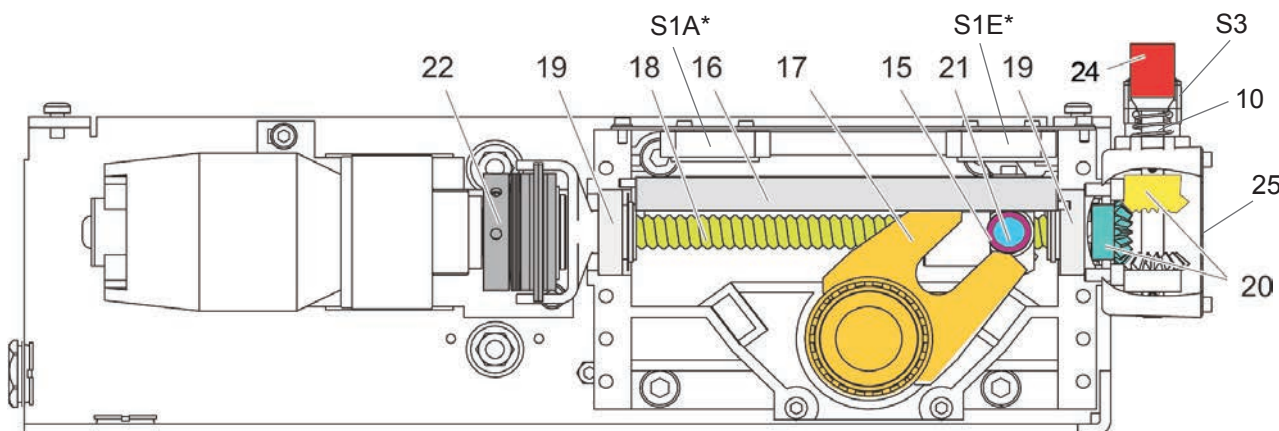

Fig. 8
AFTER 10.000 switching cycles or 10 years	<ul style="list-style-type: none"> <li>• Activities as described under annual.</li> <li>• Lubricate the following components of the motor drive with the lubricant Isoflex NBU1 (see 7.1) so that the interacting components are sufficiently lubricated:                             <ul style="list-style-type: none"> <li>• Guide rollers (15) on both sides, driver pin (21) inclusive guide rails (16) on both sides and connecting fork (17)</li> <li>• Ball and screw spindle drive (18) and both rolling-contact bearing (19)</li> <li>• Bevel gearing (20) and shifting sleeve (10) at the emergency manual drive (it is necessary to remove the covering (25))</li> <li>• All moveable parts</li> <li>• Function control of the pilot switches (S1A and S1E, see Fig. 1), protective motor switch (P), emergency switch (S3, see Fig. 8), heating and thermostat (Q)</li> <li>• Carry out a functional check (see 4.2.4).</li> </ul> </li> </ul> <p>Attention: For the friction clutch (22) to work properly, it must not come into contact with lubricant.</p>